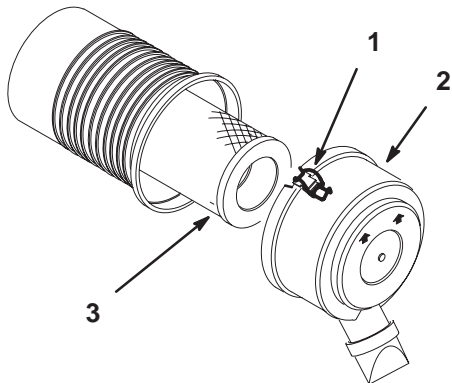

Figure 35
3. Clean around the air cleaner to prevent dirt from getting into the engine and causing damage. Loosen the retaining clips and remove the air cleaner cover (Fig. 35).
4. Carefully remove the filter from the compartment (Fig. 35).
1. Carefully slide the element into the compartment (Fig. 35).
2. Place the air cleaner cover into the compartment and latch the retaining clips (Fig. 35).